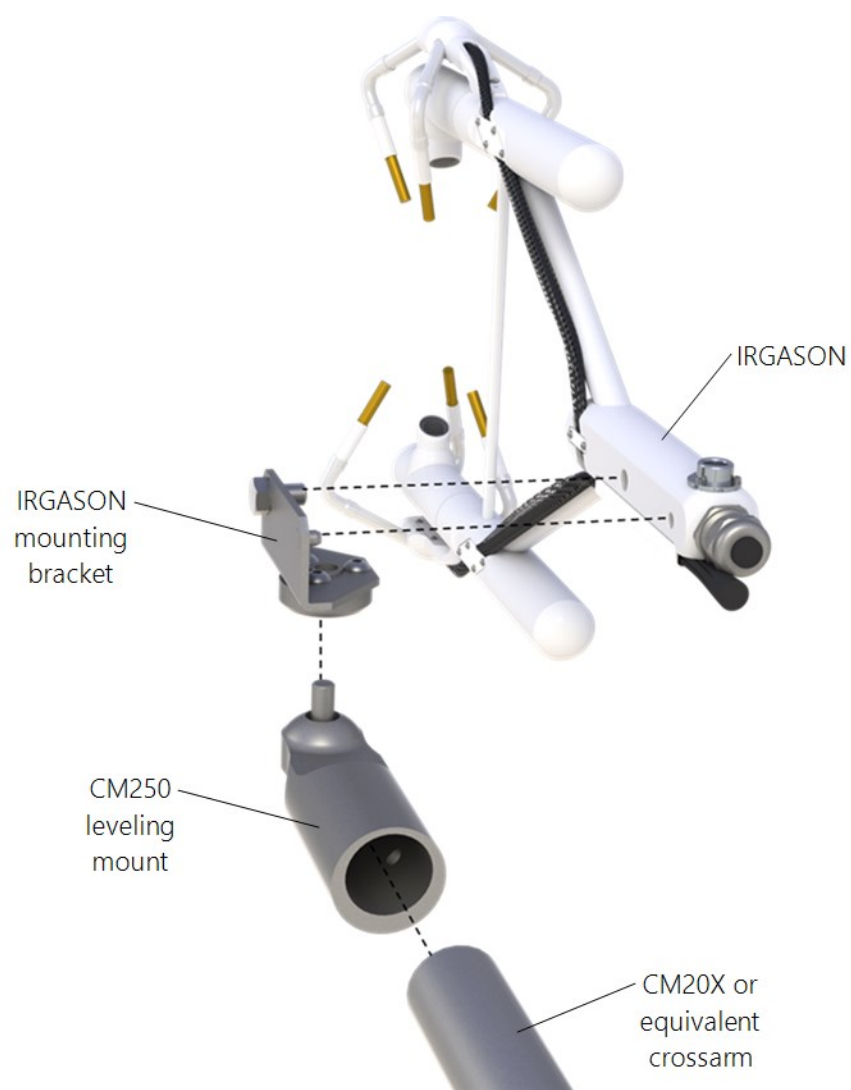

FIGURE 6-1. Exploded view of mounting the IRGASON
The IRGASON is supplied with mounting hardware to attach it to the end of a horizontal pipe with a diameter of 1.3 in., such as the Campbell Scientific CM202, CM204, or CM206 crossarm. The following steps describe the normal mounting procedure (refer to FIGURE 6-1 (p. 14))
3. Bolt the IRGASON mounting bracket to the CM250 levelling mount (see FIGURE 6-1 (p. 14)).